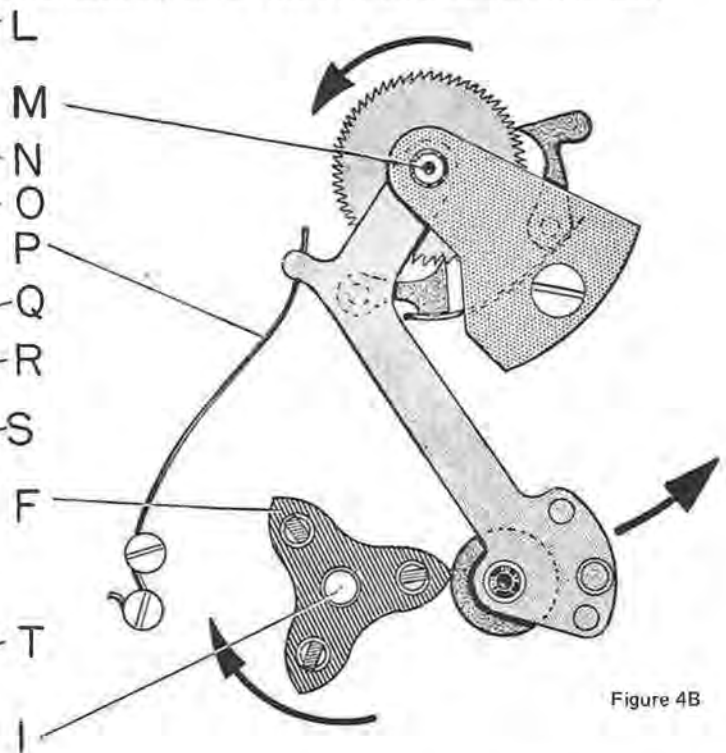

Figure 4B
In Figure 4B, the cam (F) is shown turned so that one of its tips pushes the roller (T) and lever (S) in the outward direction shown by the arrow. This causes pawl (R) to push the wheel (L) in the counterclockwise direction. The retaining click (N) is pushed aside as the tips of the ratchet teeth ride past this click. This action (4A and 4B) takes place three times with each complete revolution of the oscillating weight, regardless in which direction the cam and weight turns.